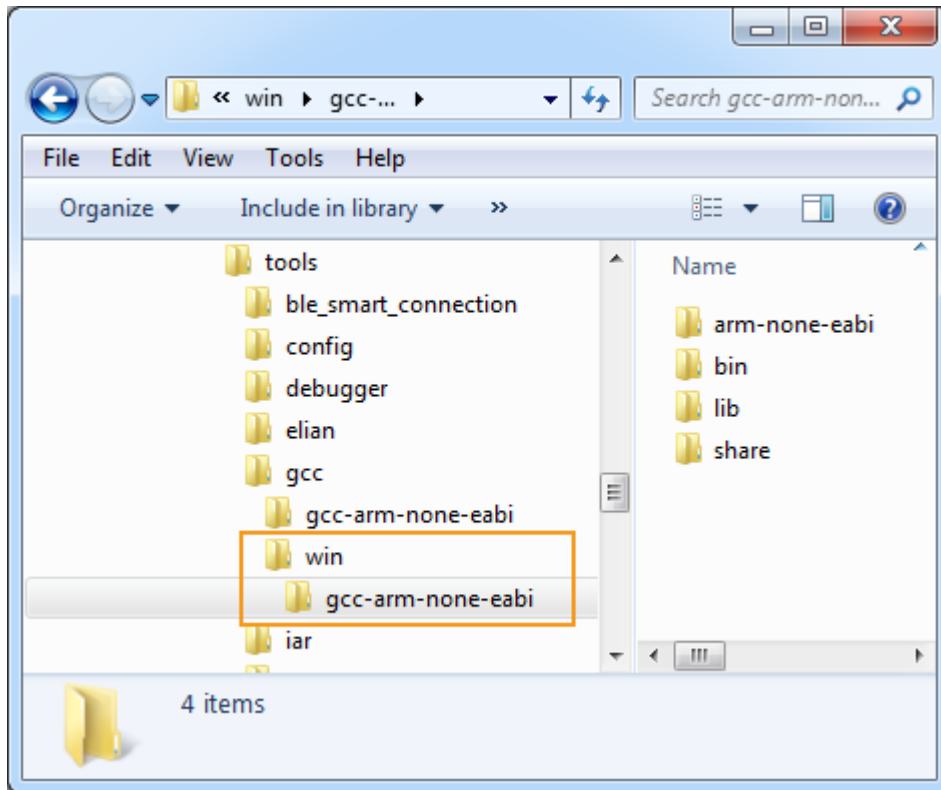

Figure 23. tools\gcc folder structure
- c) Rename the unzipped `gcc-arm-none-eabi-4_8-2014q3-20140805-win32` folder to `gcc-arm-none-eabi`, as shown in Figure 23.